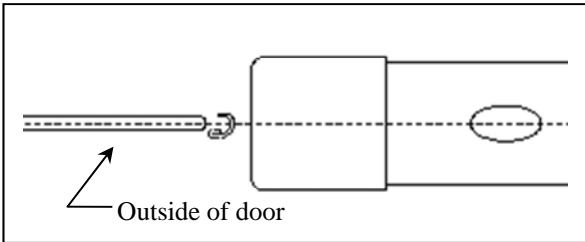

Fig. 1-5
**NOTE:** BEFORE PROCEEDING IT IS EXTREMELY IMPORTANT TO PROPERLY ALIGN THE DOOR EDGE, DOOR EDGE GUARD CHANNEL AND MALLET AS SHOWN IN FIG. 1-5. MALLET TECHNIQUE IS VITAL FOR PROPER INSTALLATION